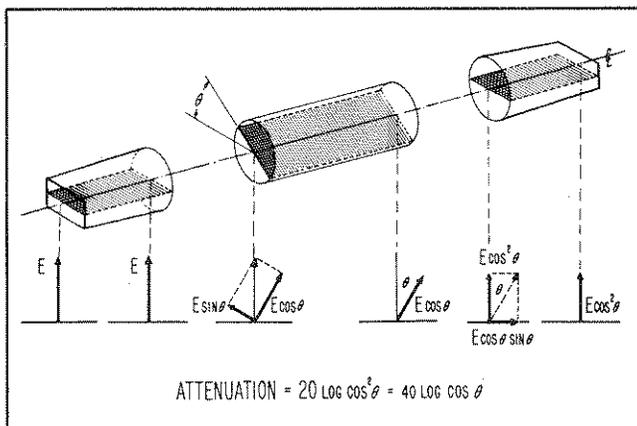

Figure 1. Attenuation Principle
21. Basically the attenuator consists of three sections of waveguide in tandem. In each section a resistive film is placed across the guide as shown in Figure 1. The middle section is a short length of round guide which is free to rotate radially with respect to the two fixed end sections. The end sections are rectangular-to-round waveguide transitions in which the resistive films are normal to the E field of the applied wave. The construction is symmetrical and the device is bidirectional.